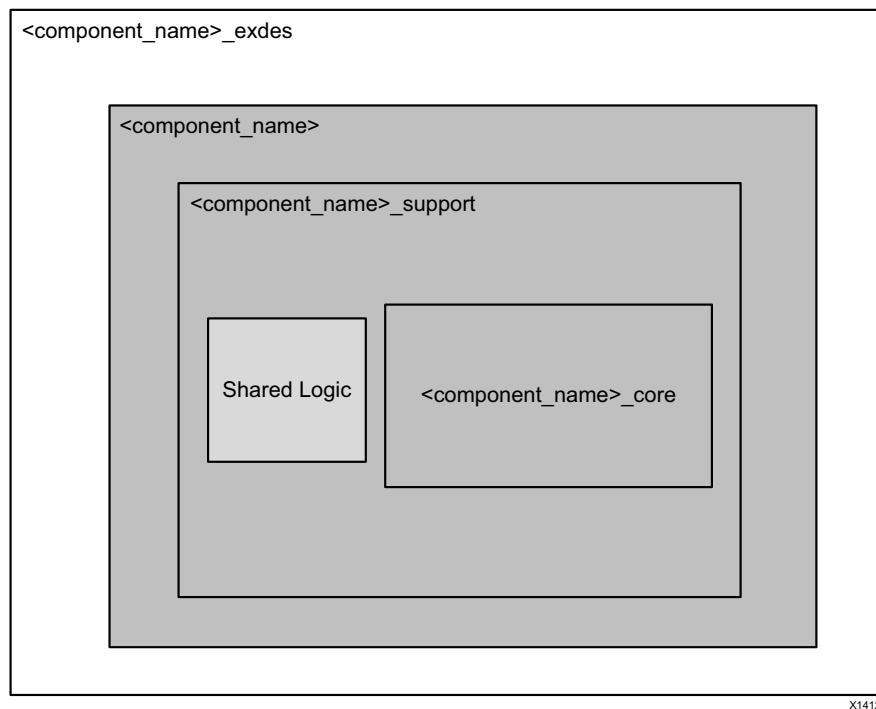
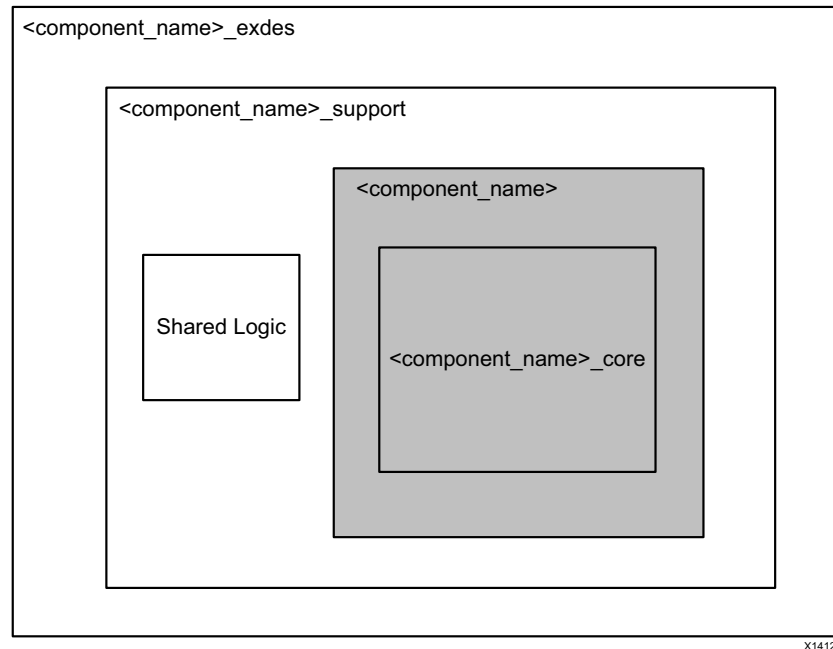

Figure 3-9: Shared Logic Included in Core
Figure 3-10: Shared Logic Included in Example Design
The shared logic hierarchy is called `<component_name>_support`. Figure 3-9 and Figure 3-10 show two hierarchies where the shared logic block is contained either in the core or in the example design. The difference between the two hierarchies is the boundary of the core. It is controlled using the **Shared Logic** option in the Vivado IDE (see Figure 4-4, page 71).
**Note:** Grayed blocks in Figure 3-9 and Figure 3-10 refer to the IP core.